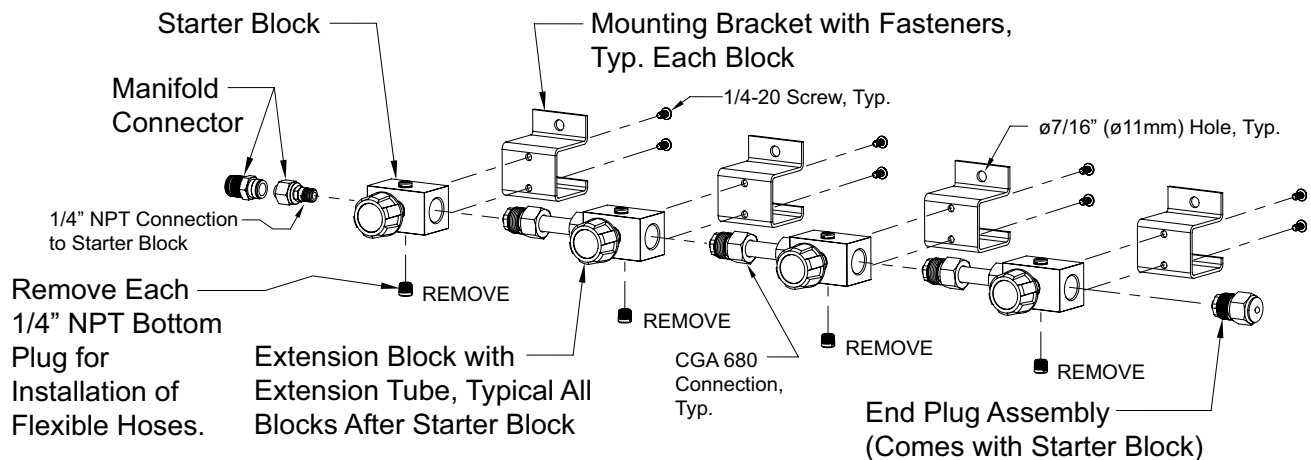

Figure 5. Exploded Assembly Detail
8. Assemble the mounting bracket to the starter block (see Figure 5).